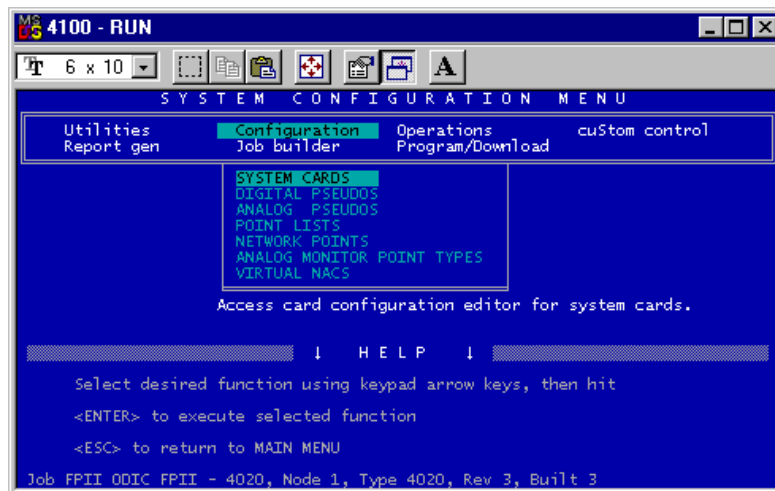

Figure 10. System Configuration Menu
4. After the job is successfully loaded, use the arrow keys to select the **Configuration** menu and press Enter (see Figure 10). If creating a new job, see the aforementioned Publications 574-102 or 579-127 for more information if needed.
- Using the arrow keys, select the **System Cards** menu and press Enter (see Figure 10).